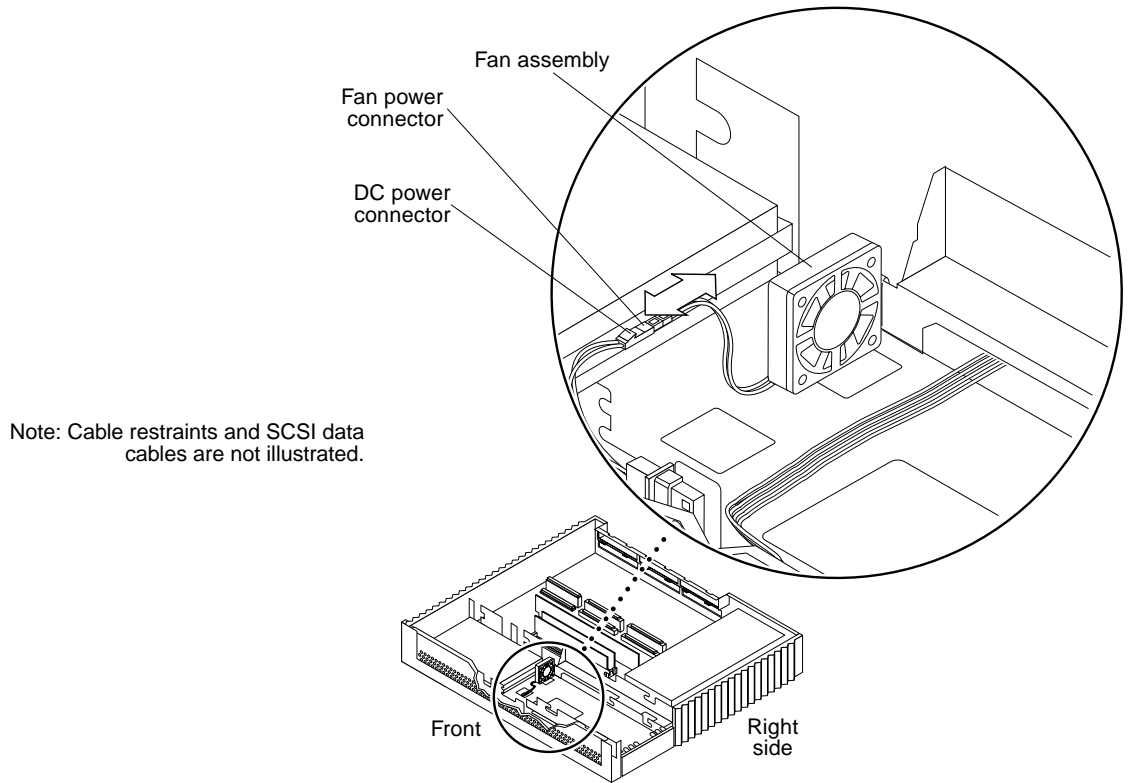

FIGURE 8-19 Disconnecting the Fan Power Connector from the DC Power Connector
- 4. Disconnect the fan power connector from the DC power connector (FIGURE 8-19).**